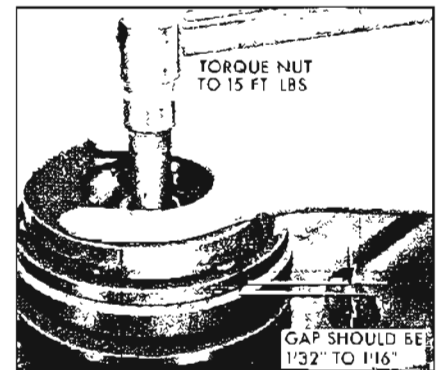

Figure 11-103—Torquing Shaft Nut
6. Install a new shaft nut, using J-9399, special thin wall  $9/16''$  socket. Tighten to 15 lb. ft. torque. The air gap between the friction faces of the pulley and clutch drive plate should now be between  $1/32''$  and  $1/16''$  clearance. See Figure 11-103.